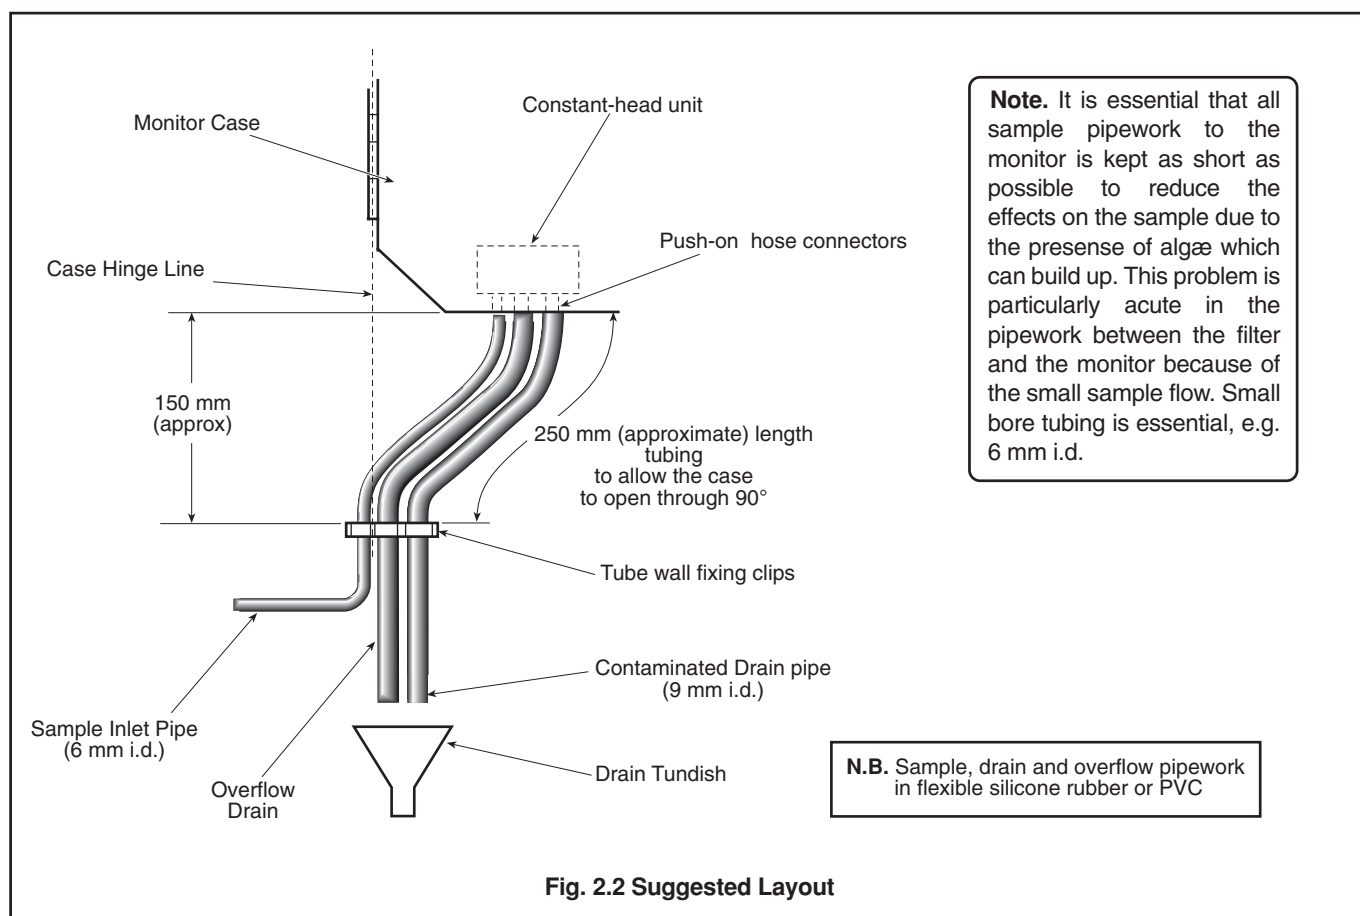

Fig. 2.2 Suggested Layout
2.5 Sample Connections – Fig. 2.2 (overpage)